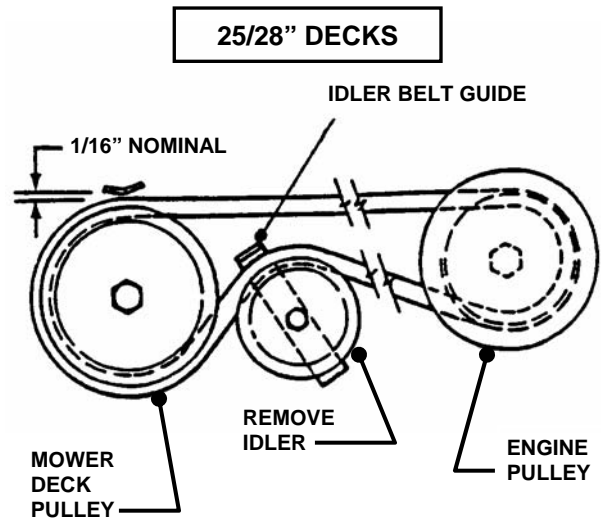

FIGURE 4.14
8. Remove idler. See Figure 4.14 and 4.15.
inside spindle belt guide and idler belt guide. Route belt as shown in Figure 4.14 or 4.15
11. Adjust belt guide. See Figure 4.14 or 4.15 for proper belt-to-belt guide clearances.